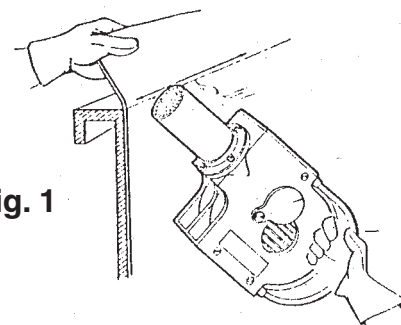

Fig. 1
2. Then, using a hot-air blower applied to the T-Lock, heat a 2-inch wide area, 1 inch along each side of the bend or angle. (See Figure 1.) Hot-air blower temperature should be approximately 350-400°F, or hot enough to make the heated area take on a high gloss and a soft, "chewing gum" consistency.